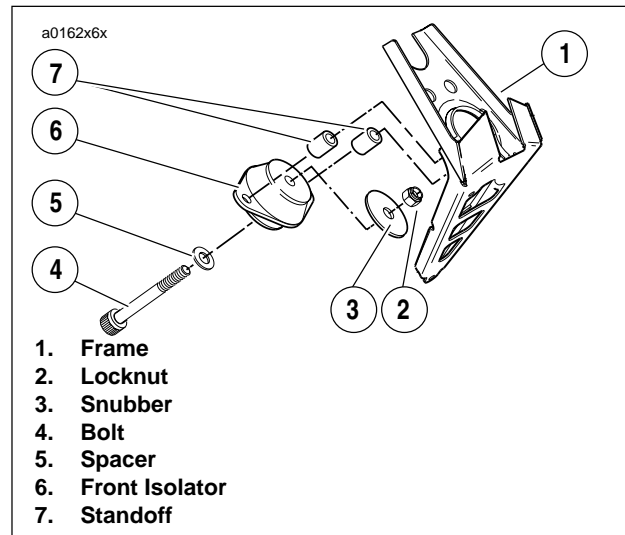

Figure 3-41. Front Isolator Mount
27. See Figure 3-41. Install front isolator mounting bolt, spacer snubber and new nut.